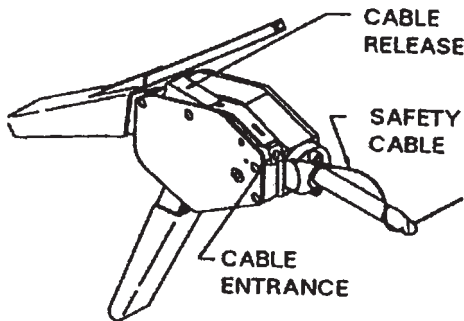

Figure 7-23. Pre-Set Tension Safety Cable Application Tool
(2) Securely join the parts to be soldered before any soldering is done.
(3) As shown in figure 7-23, hold the soldering iron beneath the splice being soldered with as much mechanical contact as possible to permit maximum heat transfer.
(4) Apply the solder, Federal Specification QQ-S-571, to the splice.
a. *Pre-Set Tension Tool.* (Figure 7-23.) Insert the free end of the cable into the cable entrance and continue to push the cable into the cavity. When the free end of the cable appears at the bottom of the tool, grip the cable and pull the slack from the cable by repeatedly closing the tool handle allowing the handle to open fully before closing again. When all slack is removed from the cable, snug the tool against the fastener by using several short strokes of the handle. Release the handle to the full open position and fully close the handle to crimp securely and cut flush.